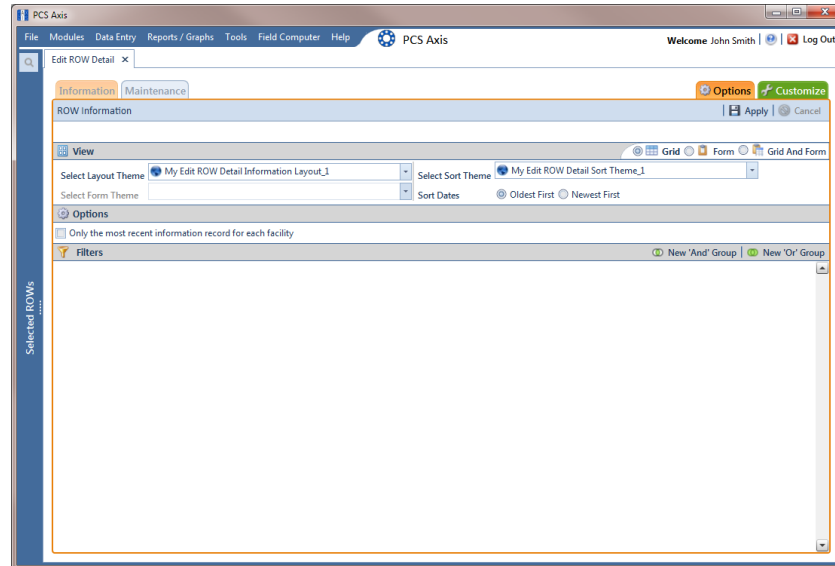

Figure 4-39. Options
- a Click the **Options** tab  to open the options page (Figure 4-39, page 175).